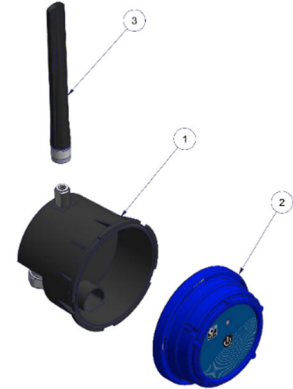

Figure 1 CV-Log-35 parts
- (1) or (A): Circled numbers and letters in the text refer to the parts described in Figure 1 and 2 respectively (example: Figure 1 - page 5)